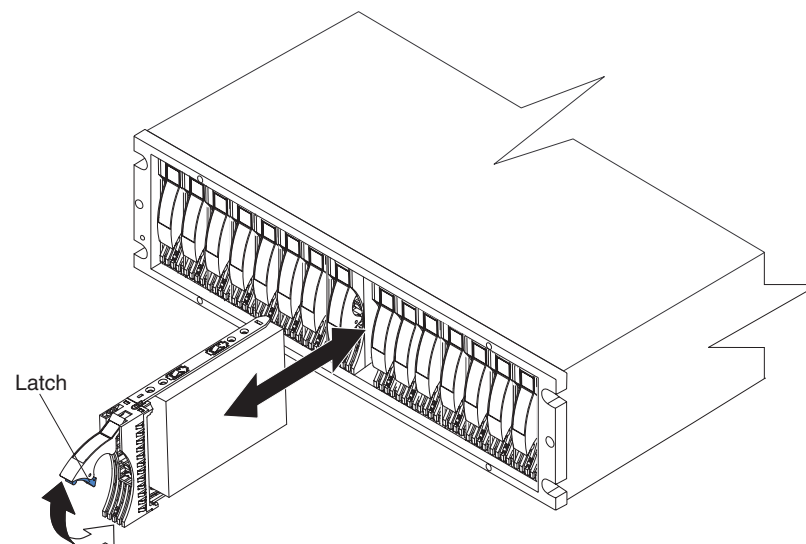

Figure 18. Removing an E-DDM CRU
4. Pull the E-DDM out of the bay, as shown in Figure 18.